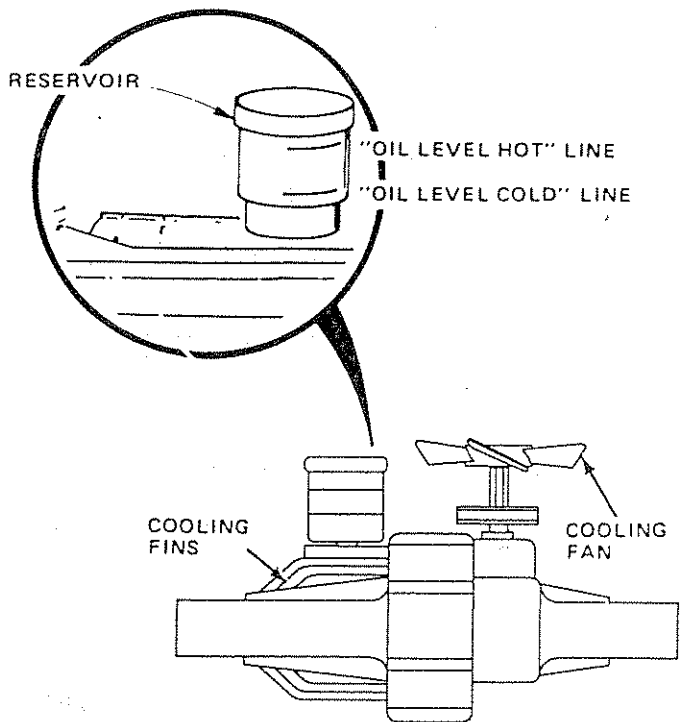

FIGURE 18
- Remove cap on reservoir, and bladder (Fig. 18), and fill to "Oil Level Cold" line with SAE 10W30.
- Inspect Cooling Fan (Fig. 18) to assure fan blades are intact and clean.
- Inspect Coolings Fins (Fig. 18) for dirt, grass clippings and other material that could hinder fan air from properly cooling transmission.